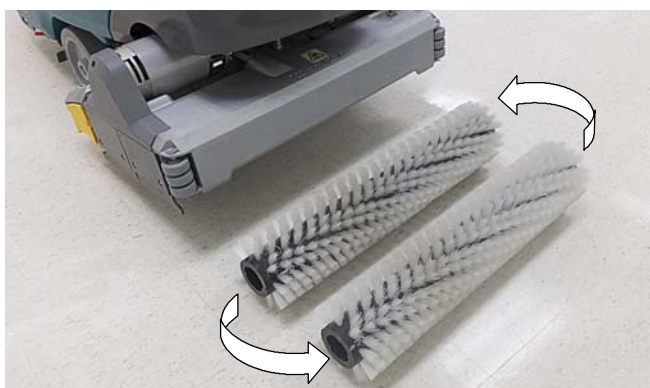

FIG. 112
2. Cylindrical brushes - Rotate brushes from front to rear (Figure 112). Replace brushes when they no longer clean effectively.